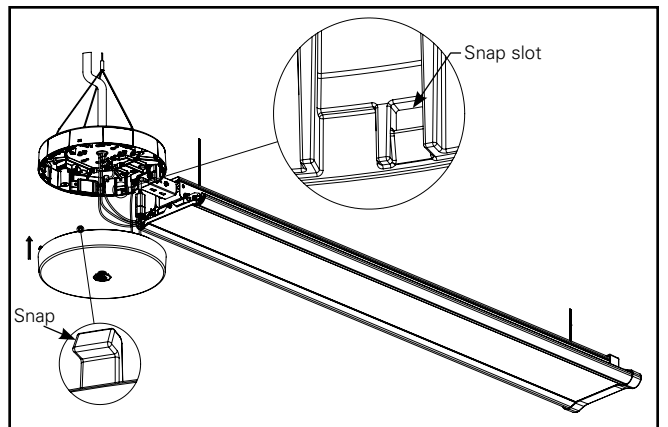

Figure 11.1.
- A. Locate four snaps of the hub bottom cover into the hub top cover (figure 11.1).